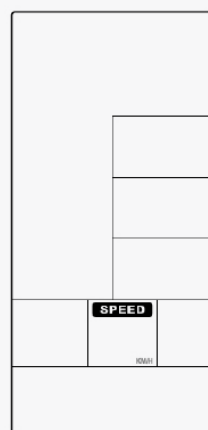

Figure 50
1. Hold on STOP & ENTER key for 2s, buzzer will sound 1 long beep. SPEED will be lit up, M/H and KM/H will flash once per second (Figure 50~51).